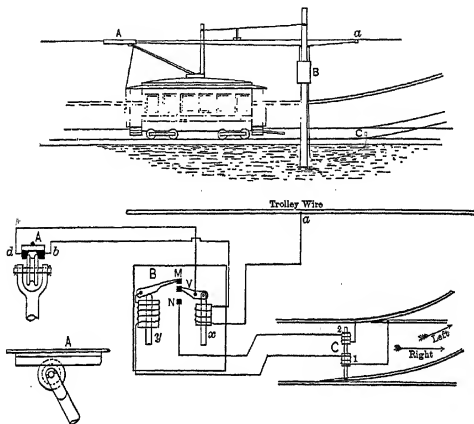

FIG. 154. Illustration and diagram of an electric track switch.
**82. Electric Track Switches.** In Fig. 154 is shown the Cheatham track switch. It consists primarily of three elements: the pan,  $A$ , attached to the trolley wire about 30 feet from the switch; the pole box,  $B$ , containing the electromagnet ( $x$ ) which makes the proper electric contact; and the track box,  $C$ , containing the electromagnets (1) and (2), which operate the track switch.